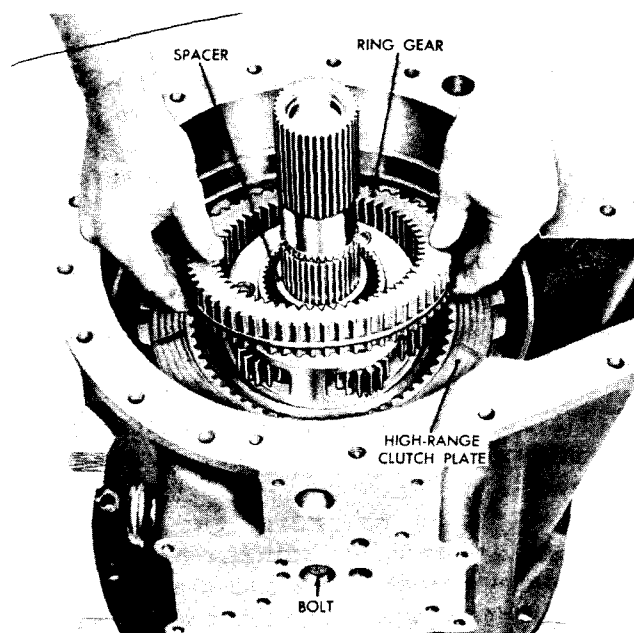

Fig. V-20. Removing (or installing) high-range planetary ring gear
(5) Position the transmission housing, front downward, on blocks. Refer to fig. V-20. Leave sufficient room to remove the forward-range planetary carrier assembly from the transmission housing. This will require a minimum of 4 inches of blocking.
(2) Remove the high-range planetary ring gear (fig. V-20). Remove the remaining internal-splined plate and external-tanged plate. Remove the bolt and lockwasher which anchors the high-range clutch piston housing. These parts are located in a recess in the valve body mounting pad.